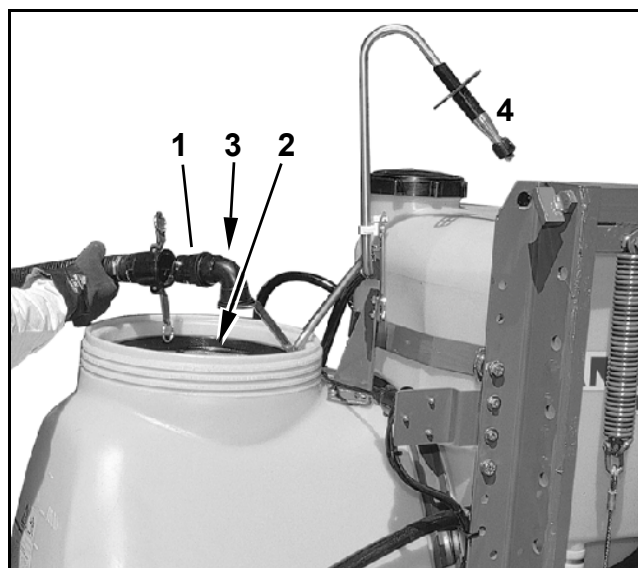

Fig. 149
For filling via 1¼" Kamlok-connection (Fig. 149/1), Inducting via sieve (Fig. 149/2) and canister flushing. For this
- Depending on the kind of spraying operation swivel the filling device (Fig. 149/3) or canister flushing device (Fig. 149/4) above the filling opening.
- For filling connect the filling hose with the Kamlok-connection (Fig. 149/1).